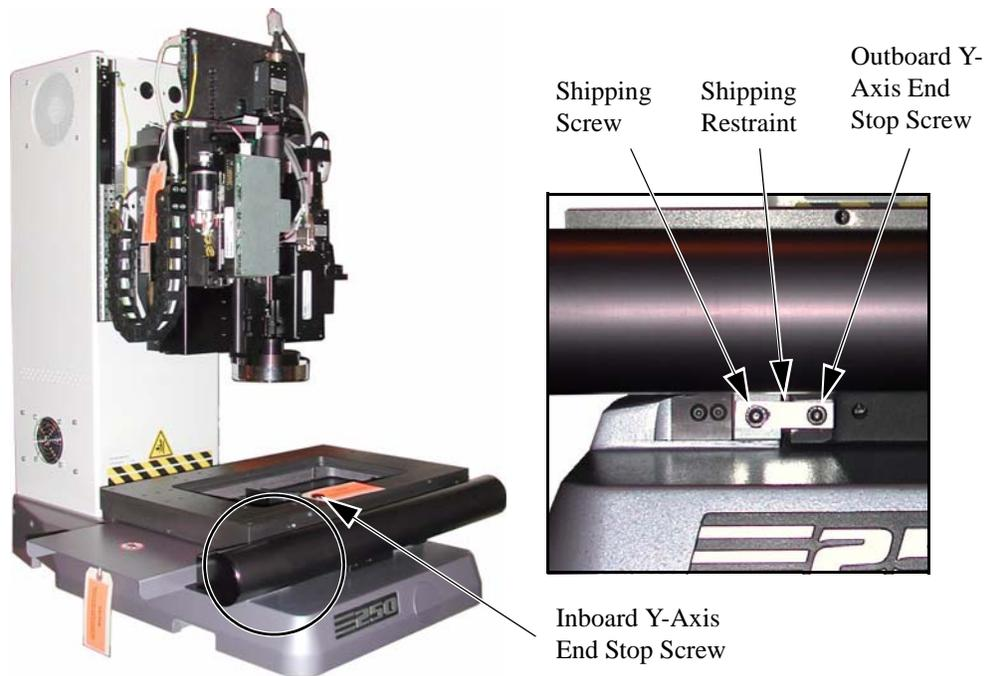

Figure 4-4 Removing the Y-Axis Shipping Restraint
10. Locate the inboard Y-axis end stop screw, which has a relatively large head and is stored in the top of the stage during shipping (see Figure 4-4 on page 20).